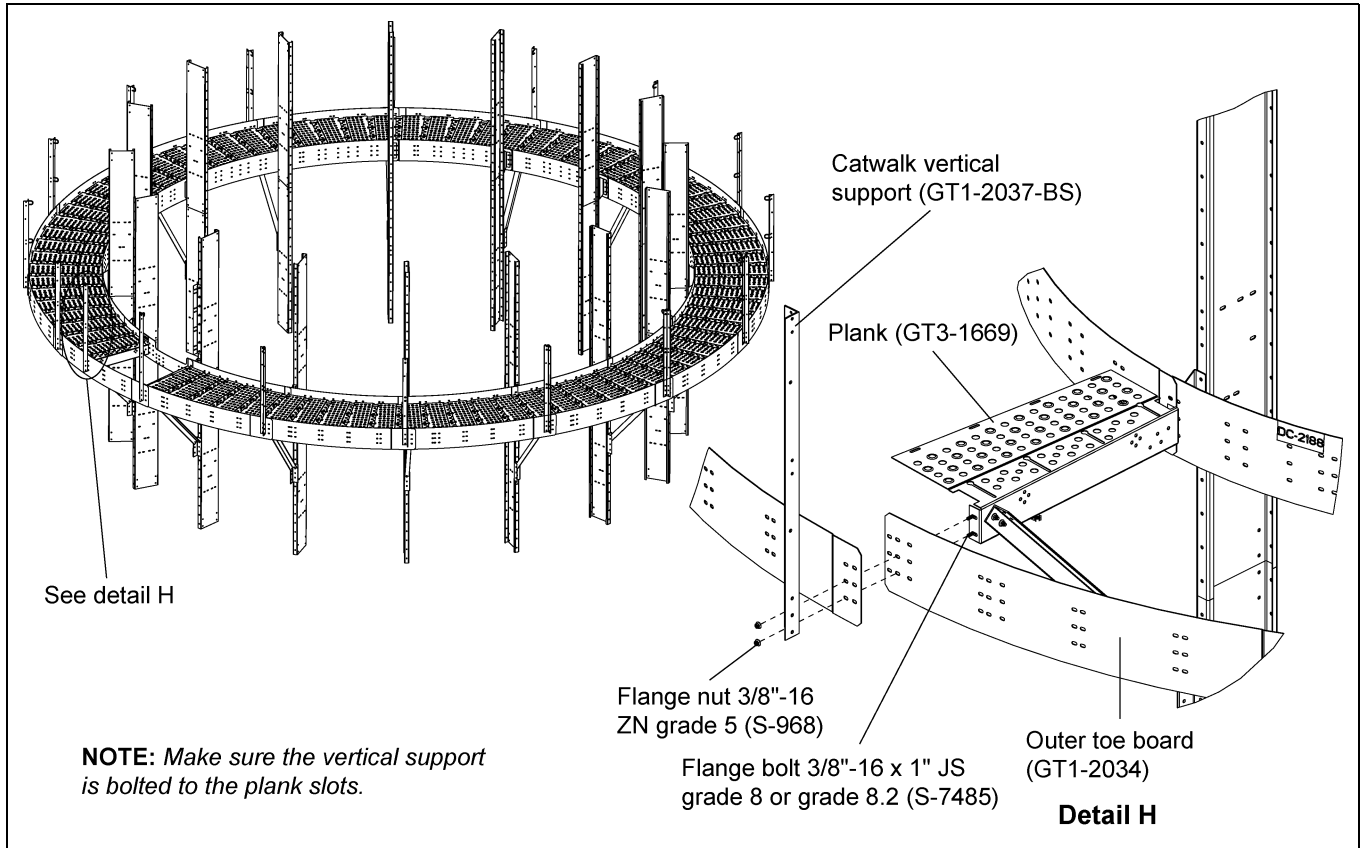
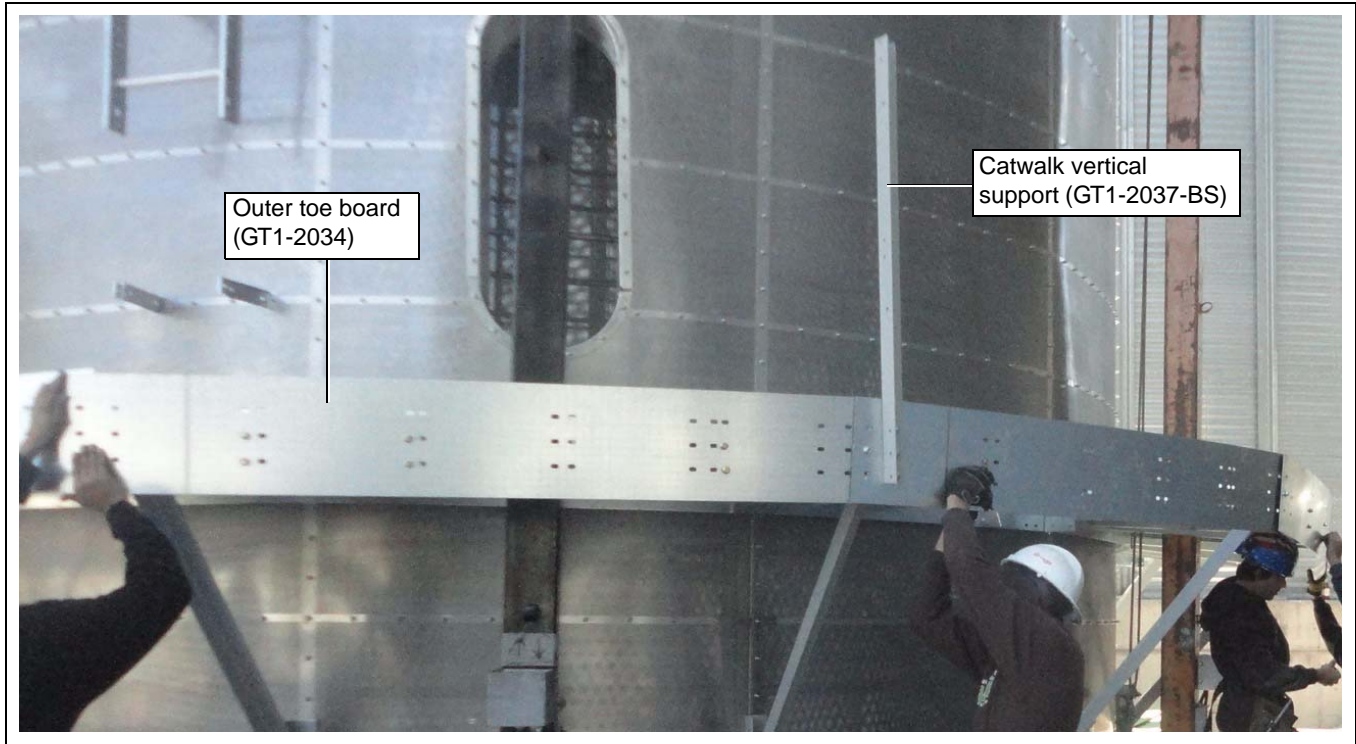

Figure 4R
Figure 4T
1. Install all the outer toe boards (GT1-2034) to the planks (GT3-1669). (See Figure 4R.)
2. When installing the outer toe board (GT1-2034) with planks (GT3-1669), install the catwalk vertical support (GT1-2037-BS) simultaneously at proper locations using 3/8"-16 x 1" JS grade 8 or grade 8.2 bolts (S-7485) and 3/8"-16 ZN grade 5 nuts (S-968). (See Figure 4R and Figure 4T on Page 25.)